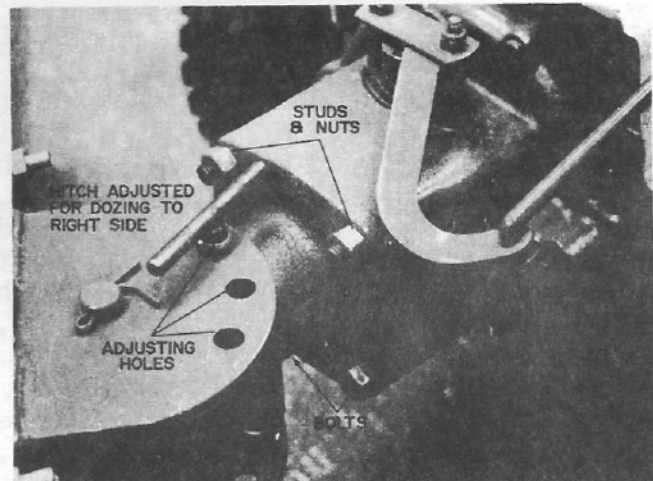

fig 3
4.2 Mount blade with hitch as in fig 3 using the two nuts on the studs and two bolts below. Tighten securely.
5.7 To change the angle of the blade, STOP the engine and tractor in a stable position. Pull the adjusting pin and pivot the blade to the desired angle; line up the holes and drop-in the pin, fig 3 and 4.